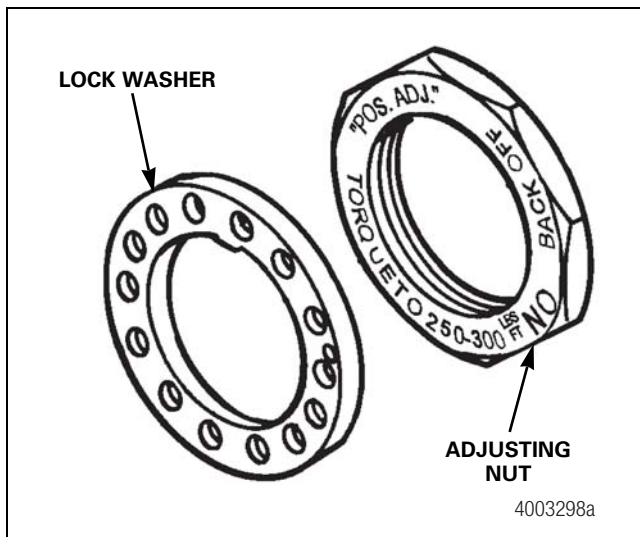

Figure 11.4
2. Install the lock washer. Figure 11.4. ⚠